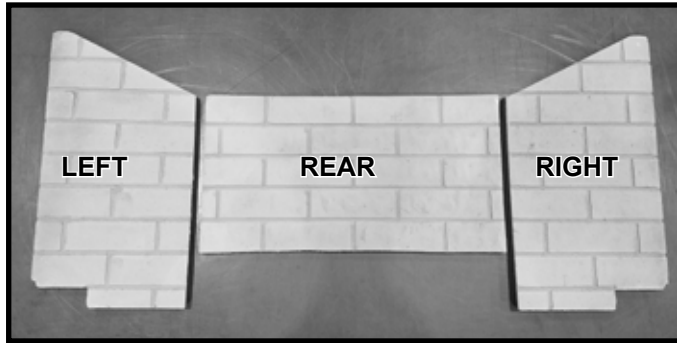

Figure 11.2. Kit Components
1. Remove kit components from packaging. See Figure 11.2.